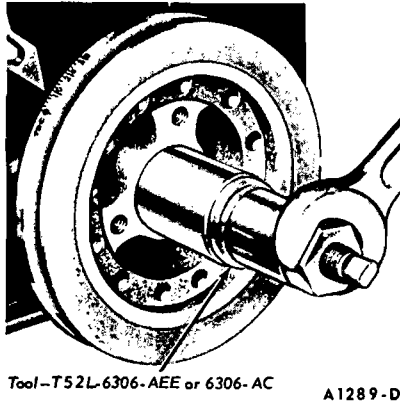

FIG. 48—Crankshaft Damper Installation
7. Lubricate the inside diameter of the hub and line up the damper keyway with the key on the crankshaft. Install the damper on the crankshaft (Fig. 48).